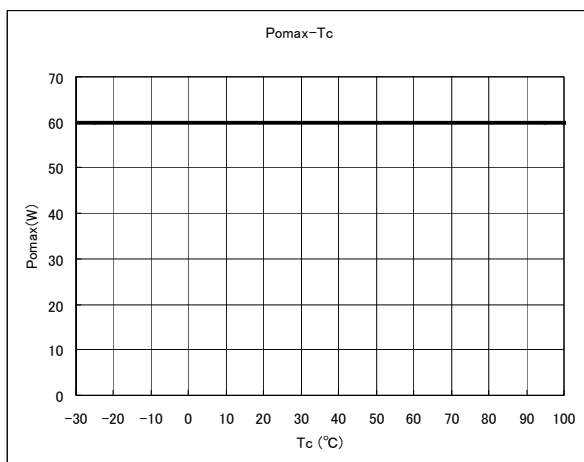
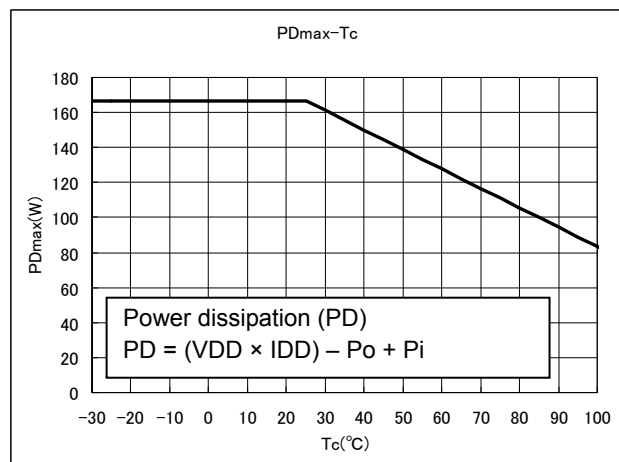

Figure 1 Pomax-Tc
Figure 2 PDmax-Tc
Note 2: The output power rating satisfies the range shown in Figures 1 and 2 according to the operating case temperature. Ensure that the device should be operated within the specified operating range. The figures below indicate the output power obtained 2 seconds after P_o is generated.
*When the device is used at $T_c = 100^\circ\text{C}$, the output power rating is 60 W as shown in Figure 1. When the power dissipation at $T_c = 100^\circ\text{C}$ exceeds the rating shown in Figure 2, the output derating is required to limit the dissipation within the specified range.
Note 5: The output power is intended to follow the rating provided in Figure 1 in Note 2.